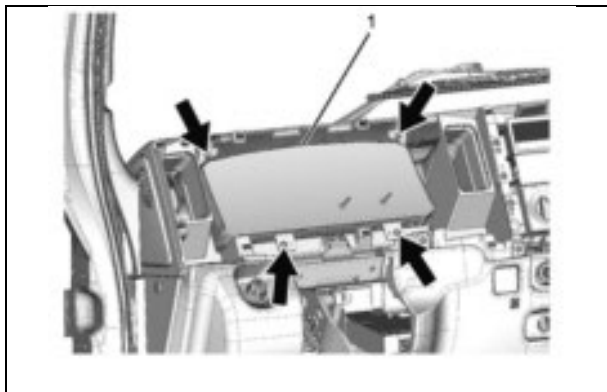

Figure 87
97. Reconnect the instrument panel cluster connector, then install the cluster in the IP and install the four (4) T25 screws removed in Step 54. (See Figure 87.)